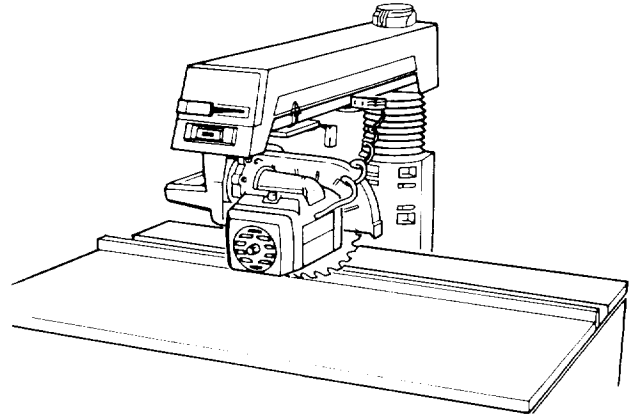

Fig. 85 - In-rip Position
3. Make sure that the lower edge of the *guard* is parallel to the table. (Figure 85)
5. Unlock the *swivel lock* and turn the *motor* to the in-rip position, with the *blade* between the *motor* and the *fence*. (Figure 85)